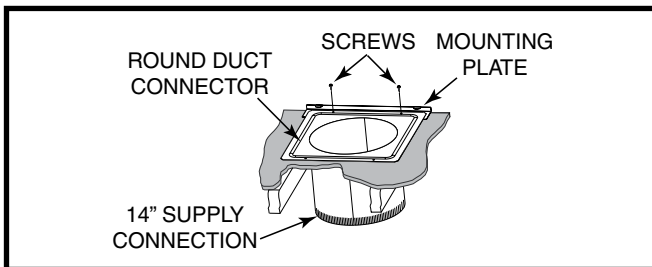

Figure 9. Round Duct Connector Installed
- Install the mounting plate under the back side of the duct connector. See Figure 9 (page 8). **NOTE:** Align the screw holes in both components.